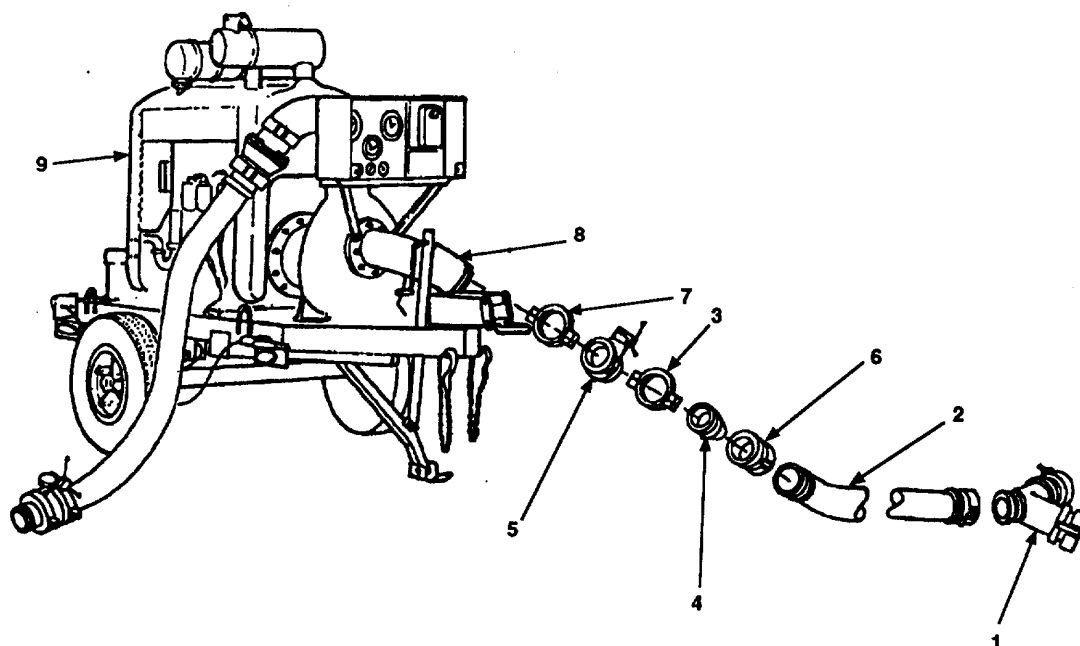

Figure 2-68. Disassembly of Lead Pumping Station (Suction Port).
- a. Push cam arms on Y-connection reducer (Figure 2-68, 1) forward to open position. Remove Y-connection reducer (1) from water source.
- b. Push cam arms on suction hose assembly (2) forward to open position. Remove Y-connection reducer (1) from hose assembly (2).
- c. Disconnect additional suction hose assembly lengths (2) as required.
- d. Remove grooved-end quick disconnect coupling clamp (3) (para 2.3.3.1) connecting coupling pipe fitting (4) to 6 inch butterfly valve assembly (5). Remove coupling pipe fitting (4) with attached coupling half (6).
- e. Remove coupling half (6) from coupling pipe fitting (4).
- f. Remove grooved-end quick disconnect coupling clamp (7) (para 2.3.3.1) connecting 6 inch butterfly valve assembly (5) to suction port (8) on pumping assembly (9). Remove 6 inch butterfly valve assembly (5).
- g. Reference applicable technical manual and install plastic cap on suction port (8) of 600 GPM pumping assembly. Reference applicable technical manual for suction port location on 600 GPM pumping assemblies not shown.